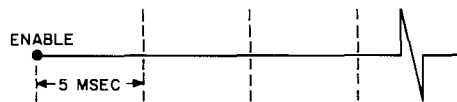

Fig. 8—Timing Pulse
- (c) The waveform shown in Fig. 8 should be observed.